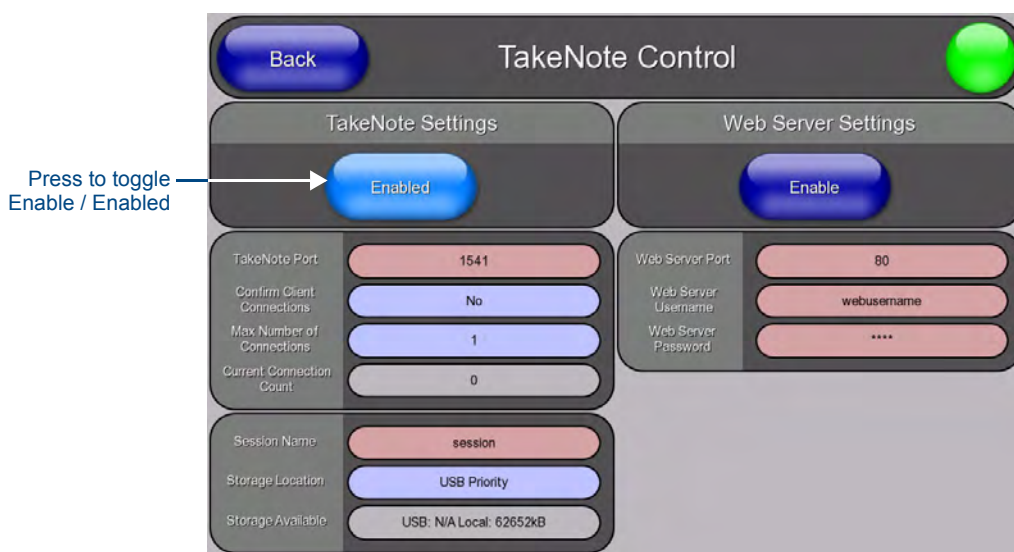

FIG. 98 TakeNote Control page
1. Open the *TakeNote Control* page (FIG. 98):
2. Press **Enable/Enabled** until it toggles to **Enabled** (as shown in FIG. 98).